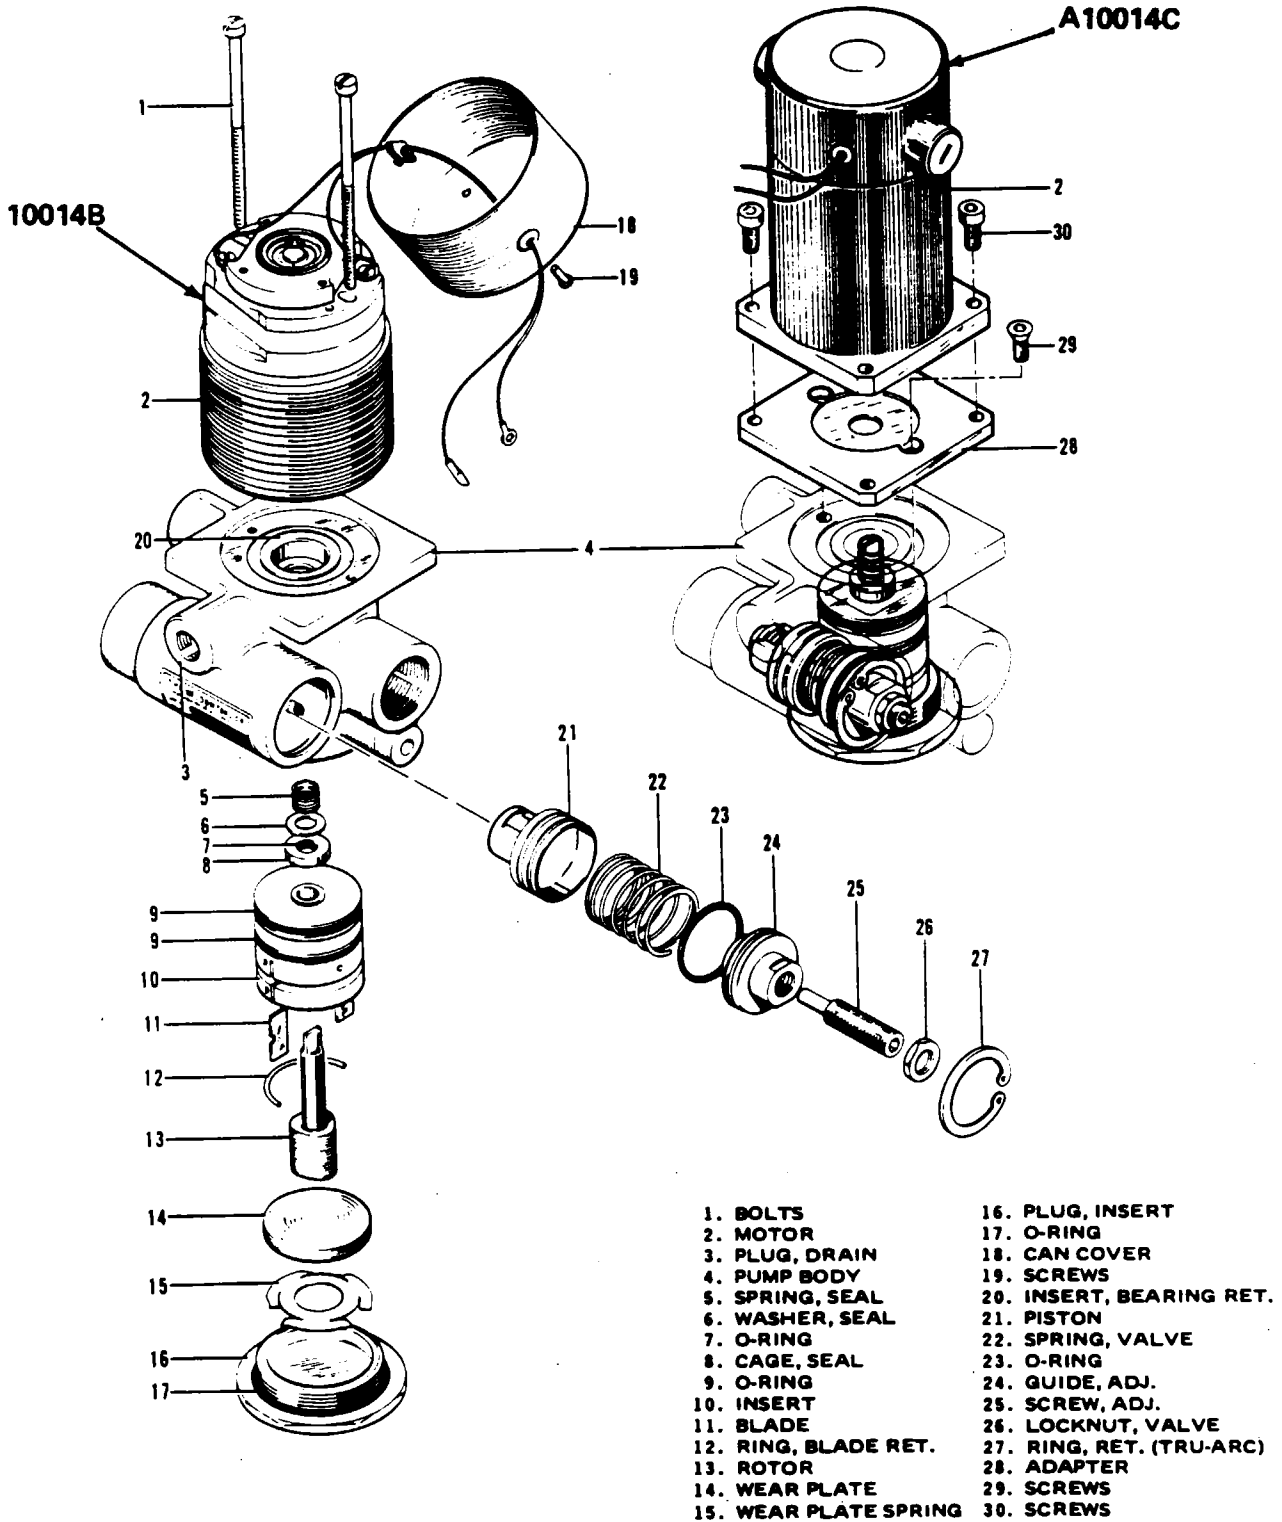

Figure 9-12. Electric Fuel Pump
9-51. DISASSEMBLY OF EMERGENCY ELECTRIC FUEL PUMP. (Refer to Figure 9-12.) The motor of the 10014B pump assembly may be separated from the pump by removing the two motor thru bolts located inside the cover at the commutator end of the motor. The motor of the A10014C pump assembly may be separated from the pump by removing the four motor attachment screws (30). Care should be taken when separating the pump from the motor to insure that the shaft end bearing, which is a press fit on the armature shaft, slips out of the pump body housing. After separation of the pump and motor, disassembly of the pump can proceed as follows:
- a. Remove seal spring (5), seal washer (6) and seal cage (8) containing seal O-ring from pump shaft. Long thin nose pliers may be used to facilitate removal of seal cage.
- b. Unscrew the insert plug (16) with O-ring seal (17) from the pump body (4). Remove the wear plate spring (15) and wear plate (14) (used with newer pumps).
9-53. ASSEMBLY OF EMERGENCY ELECTRIC FUEL PUMP. (Refer to Figure 9-12.)